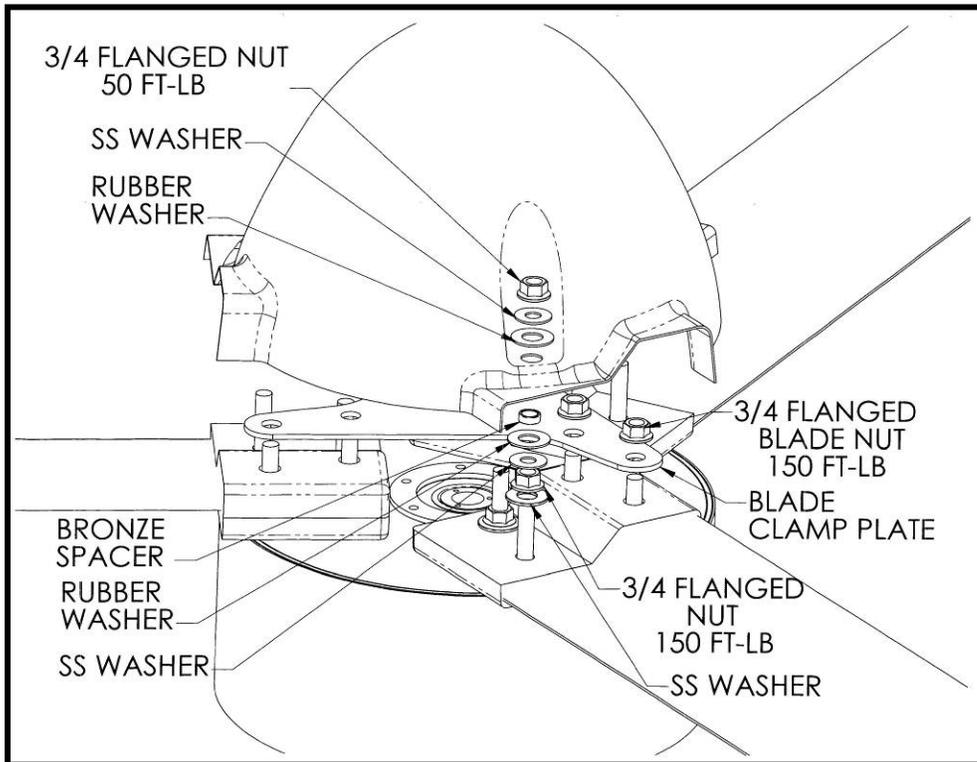

Figure 11: EXCEL 5 Blade, Clamp Plate and Spinner Attachment
17. Attach the three blades to the powerhead as shown in **Figure 11**, with the hardware provided in the Blade and Spinner Hardware Kit (HK0003). The contents of HK0003 are shown in
- c. Attach the blade clamp plate so it fits over the six studs in the thick sections of the blade root pads. Only one blade clamp orientation will allow this placement, as shown in **Figure 11**. Secure the clamp plate on the blade roots using six Spirallock nuts, **torqued to 150 ft-lb** (Washers are not required. Excell 10 shown).
19. Attach the spinner to the powerhead as shown in **Figure 11**, making sure that all hardware is ordered and positioned properly. The recommended procedure is as follows:
- a. Pre-assemble a stainless washer, rubber washer and bronze spacer in proper configuration (shown in **Figure 11**), fastened together with a small amount of silicone caulk. **Be sure the bronze spacer is *inside* the rubber washer and against the stainless washer. Be sure the inner diameters of the stainless washer and spacer are properly aligned.** Do this ahead of time for three separate assemblies, and use these assemblies when you are ready to attach the spinner.